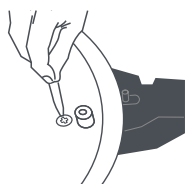

Fig. 10
due to the working/pressure regulator valve (3) being blocked, this safety system will go into action and release steam to lower the pressure inside the cooker. If the safety valve (7) operates at any time, move the cooker off the heat source and let the pressure drop completely. Check the cleanliness and operation of the working/pressure regulator valve (3) (Fig. 10). If the problem persists, have your cooker checked by a Fagor-authorized technical service centre.